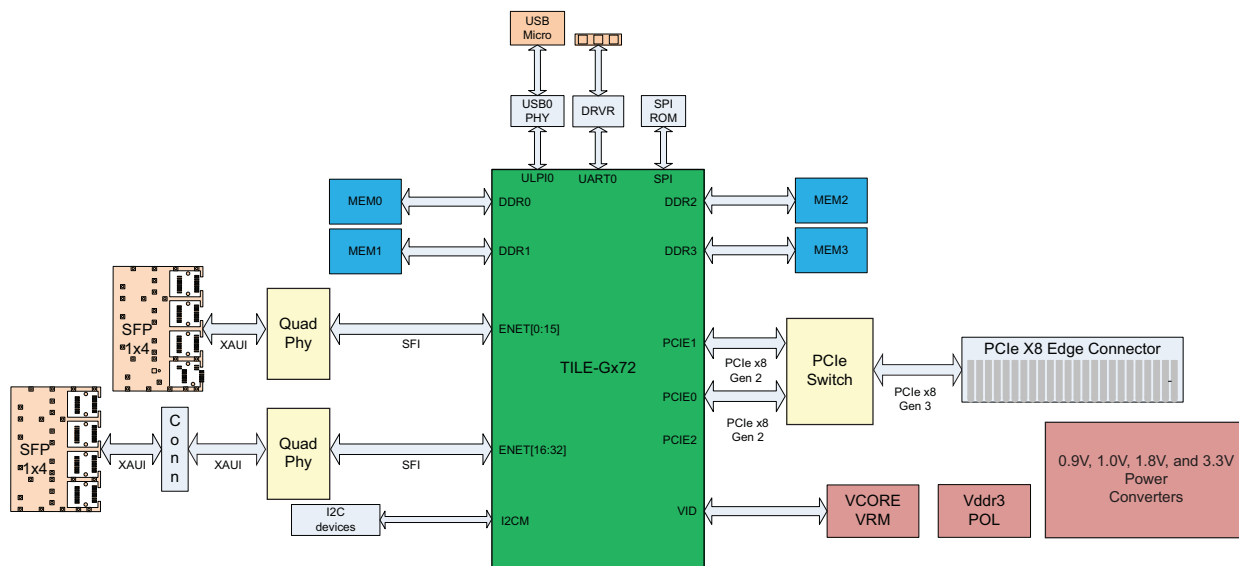
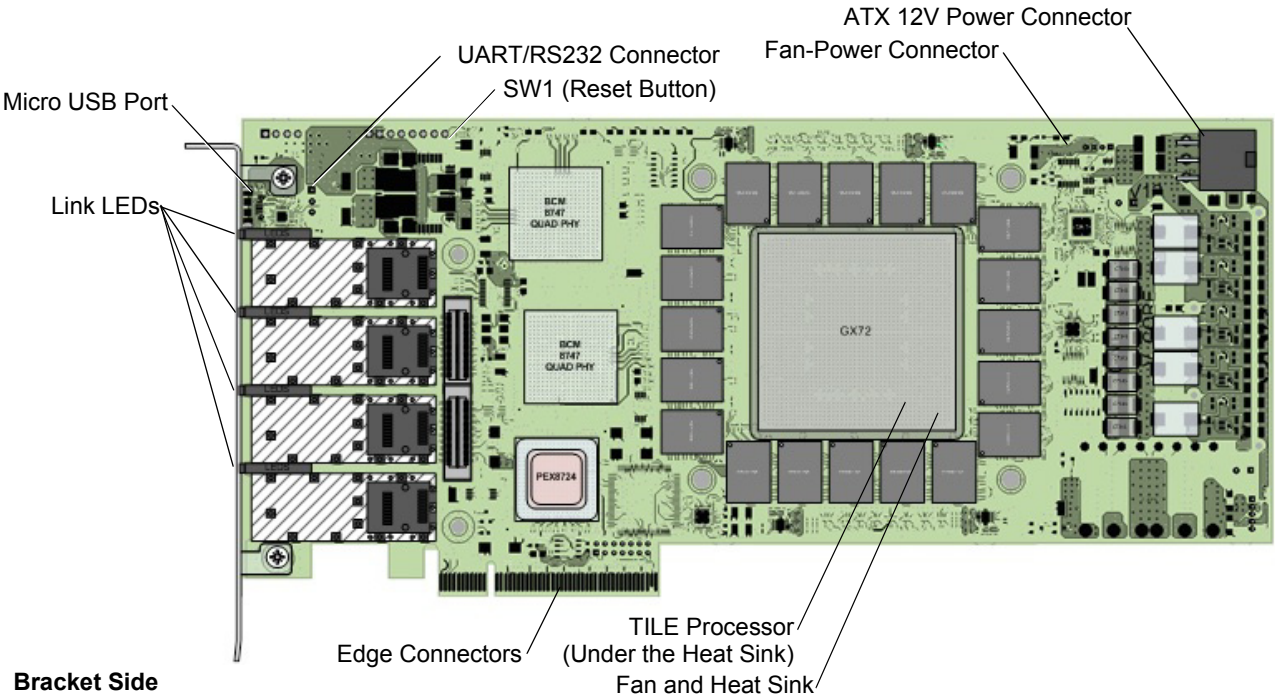

Figure 2-1: TILEncore-Gx72 Block Diagram
Figure 2-2: TILEncore-Gx72 — Top View
Figure 2-1 and Figure 2-2 depict the major card components and associations.
Figure 2-2 shows a top view of the card and identifies the major components. For locations of the LEDs, refer to Figure 7-1.
- +12V from the host PC power supply. The TILEncore-Gx72 derives its power exclusively from the PCI Express 150W-ATX (6-pin) Power Connector located on the top edge of the card (see Figure 2-2: on page 9).